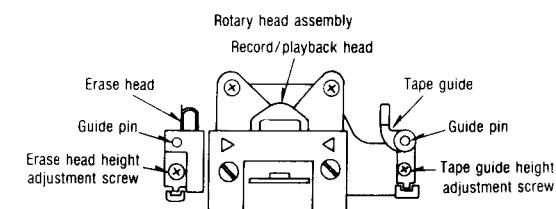

Fig. 2
1. Turn the tape guide height adjustment screw and the erase head height adjustment screw on the rotary head assembly counter-clockwise until the upper end face of the erase head and of the tape guide are aligned on the same plane as the top face of their respective guide pins. (Refer to Figs. 2, 3 and 4).